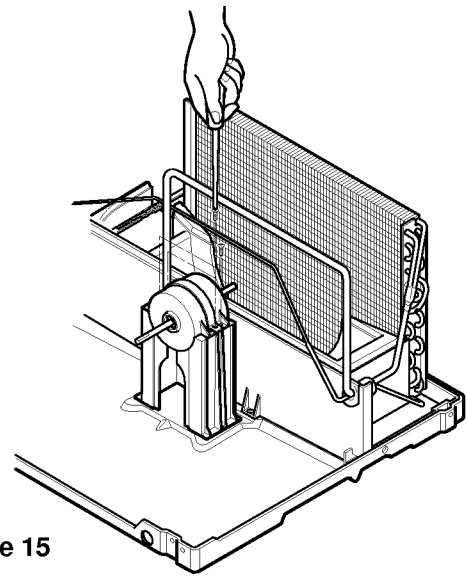

Figure 15
9. Re-install the components by referring to the removed procedure, above. (See figure 15)